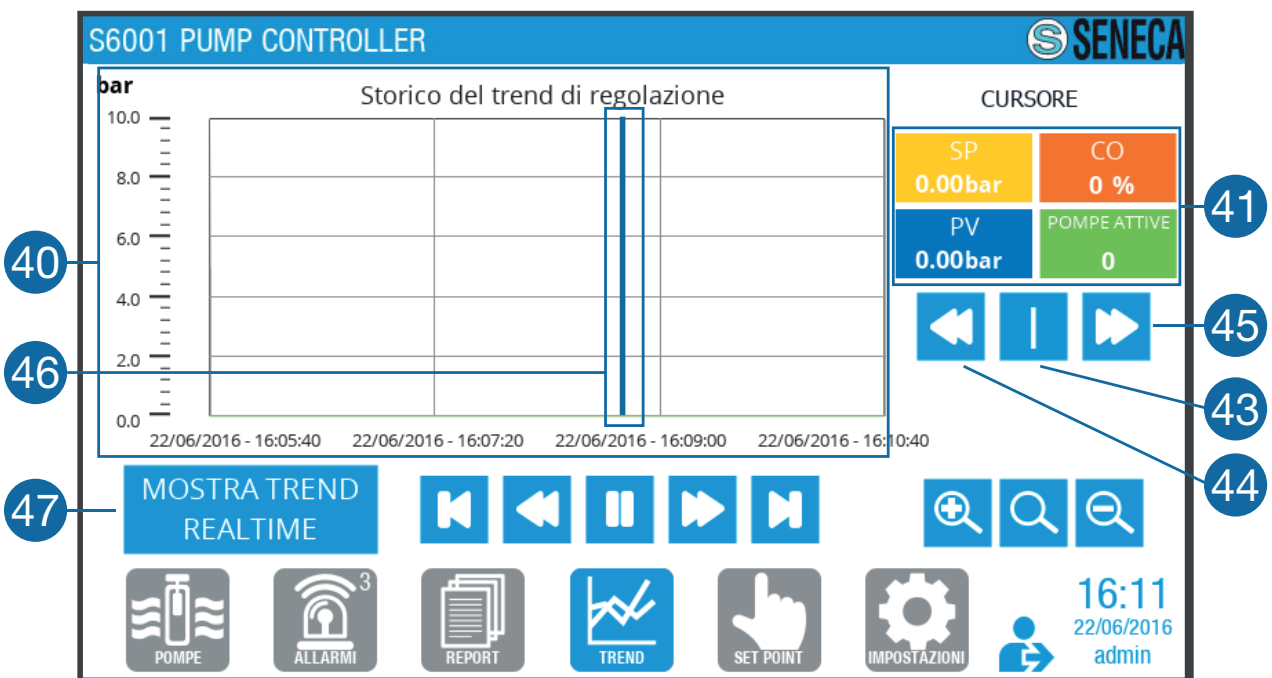

Fig. 56 "Historical trend" screen
<p>31</p>	<p>Key to access the “Historical trend” screen (Fig. 56 on page 69).</p>
The (32), (33), (34), (35), (36), (37), (38), (39) keys have the same functions in the "Historical trend" screen (Fig. 56 on page 69).